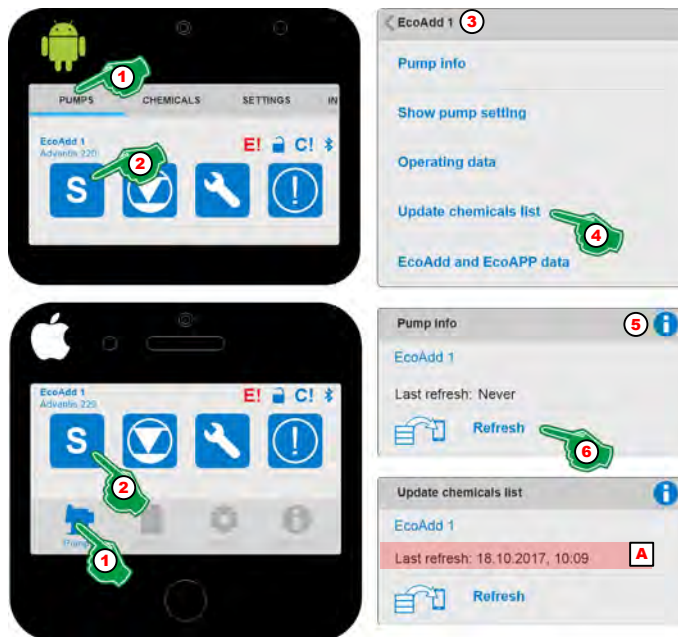

Fig. 28: Update chemicals list
1. Select Menu [Pumps] (Fig. 28, Pos. 1).
2. Select 'Dosing mode' Symbol (Fig. 28, Pos. 2).
3. To check which pump is currently displaying data, click on header (Fig. 28, Pos. 3) in which the selected pump is displayed.
4. Select [Update chemicals list] (Fig. 28, Pos. 4).
5. With the selection of the [Info] ⓘ Symbol (Fig. 28, Pos. 5), the following information appears:
6. Select [Refresh] (Fig. 28, Pos. 6).
⇒ The 'EcoAPP' retrieves the database from the Internet and saves it. The date of the last update is displayed (Fig. 28, Pos. A) as soon as the data has been updated for the first time.